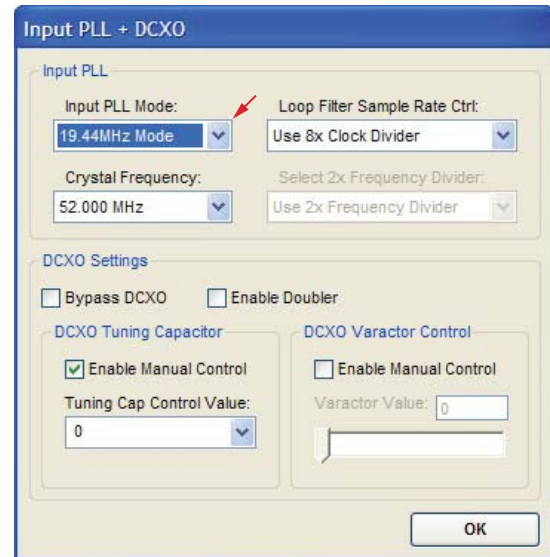

Figure 26. Input PLL + DCXO Window
- Click **Click for Details** in the **PLL & DCXO** box in the main window of the evaluation board software to access the **Input PLL + DCXO** window (see Figure 26).